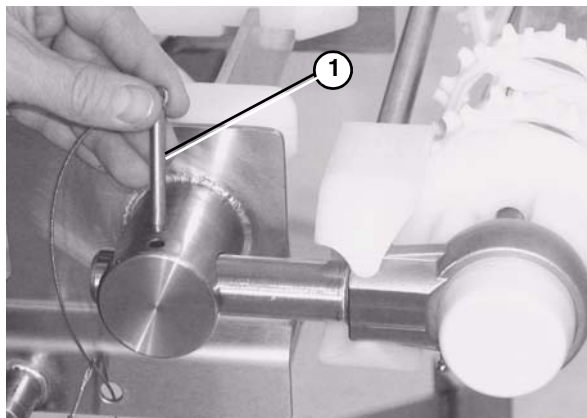

Figure 63
5. Remove the pull pin (**Figure 63, item 1**).
1. Remove the pull pins from take up blocks (Figure 63).